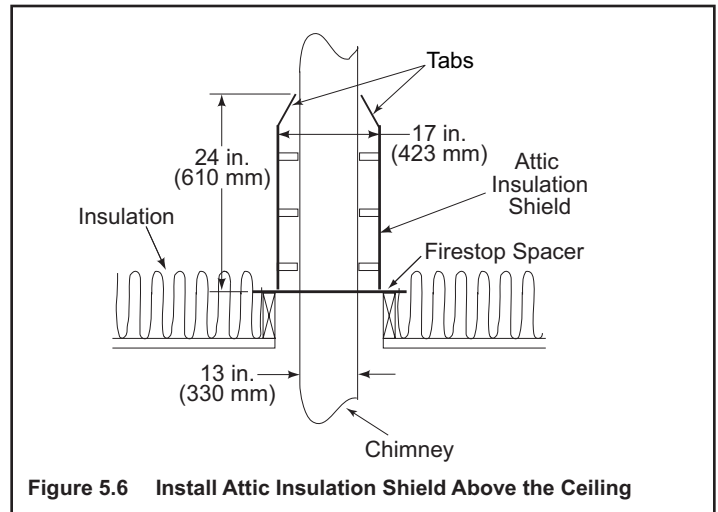

Figure 5.6 Install Attic Insulation Shield Above the Ceiling
- Slide the shield down until it rests on the firestop spacer. The firestop spacer will support the insulation shield. See Figures 5.6 and 5.7.